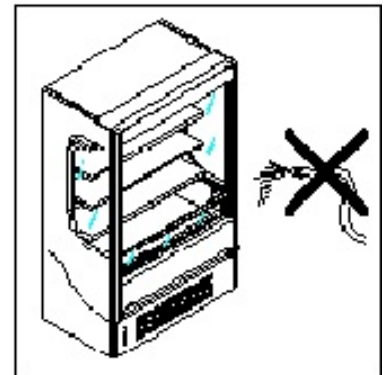

Figure 9
- Never use direct or indirect water jets on the unit (Fig. 9).